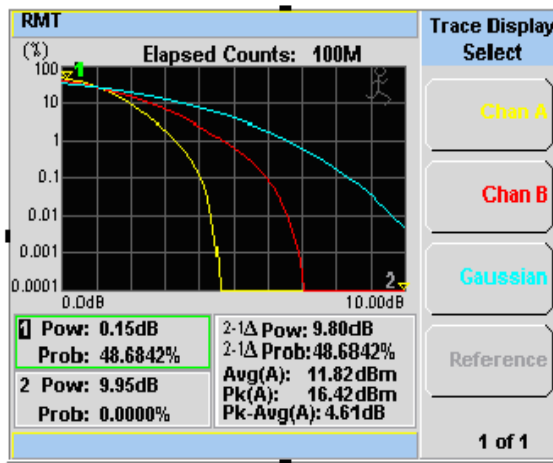

Figure 9-4 Trace Display Select control menu
- Press **Trace Control**, **Trace Display** and select the trace that you wish to display. The trace which is not selected is grayed out, as in Figure 9-4.